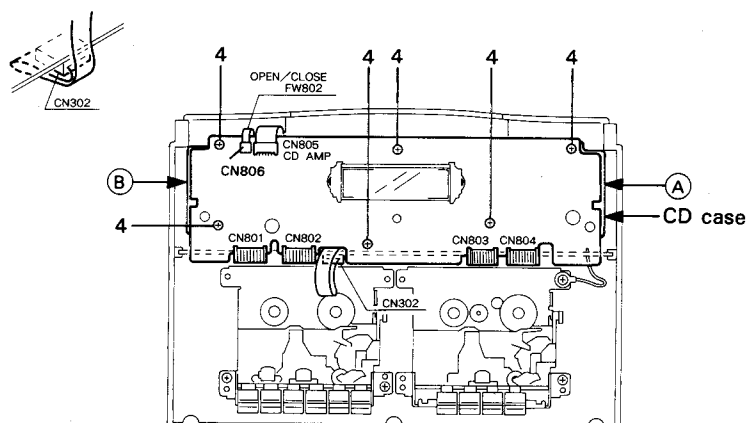

Fig. 7-4
■ System Micro Computer P.C. Board (refer to Fig. 7-4)
1. Remove the six screws ④ retaining the system micro computer P.C. board from the CD player assembly.